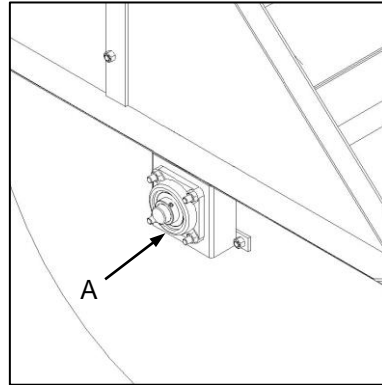

Fig. 4
- ✔ Similarly, apply grease to the drive chain and the main shaft bearing unit (Fig. 4-A) located at the rear of the implement.
- ✔ Ghries eweneens die dryfketting en hoofskoeëllaereenheid (Fig. 4-A) aan die agterkant van die implement.